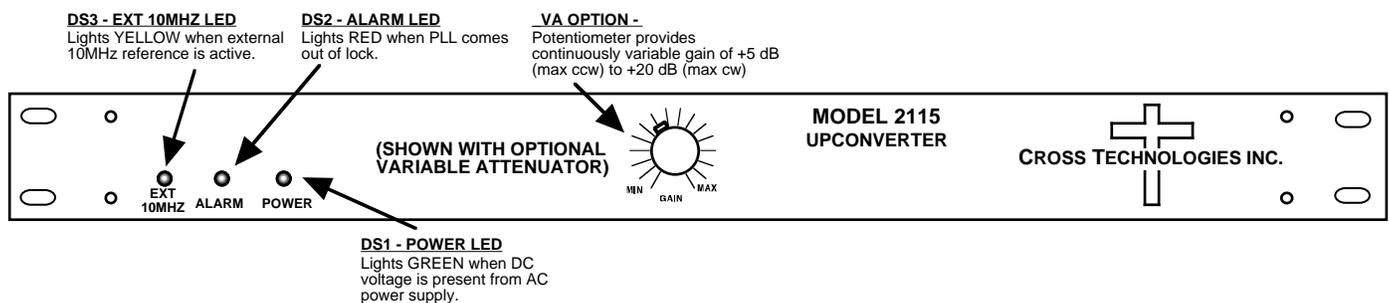

FIGURE 2.2 2115-114 Front Panel Controls and Indicators
4. Be sure DS1 (green, DC Power) is on and DS2 (red, Alarm) is off (Figure 2.2).
7. If EXT is selected or AUTO is selected and there is a 10MHz, +3 dBm signal at J2, check that DS3 (yellow, Ext 10MHZ) is on (Figure 2.2).